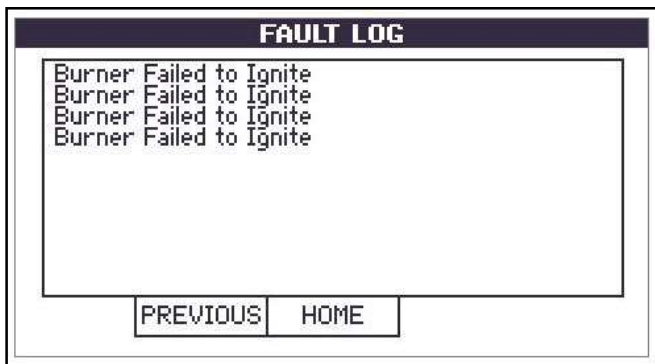

Figure 144
- Check the Reporter for any faults (see Figure 144)